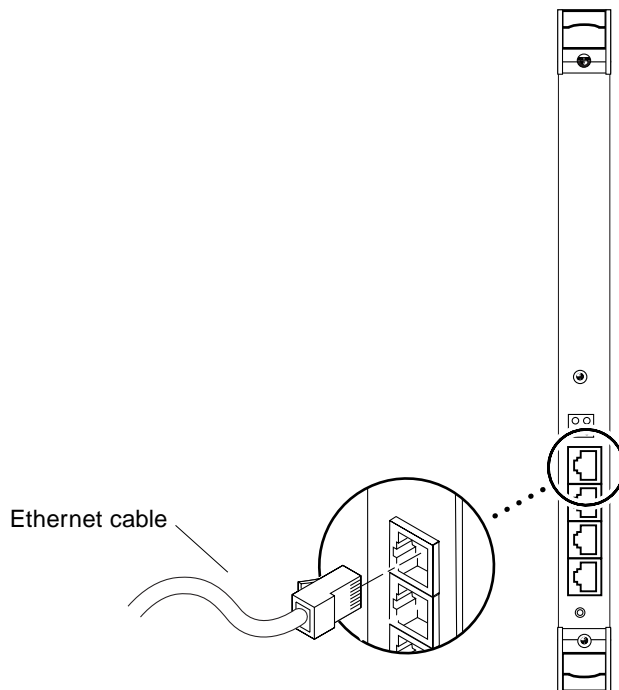

FIGURE 3-9 Connecting Ethernet Cables to the Front-Access Adapter
2. Connect one end of an Ethernet cable to an Ethernet port on the adapter (see FIGURE 3-9).